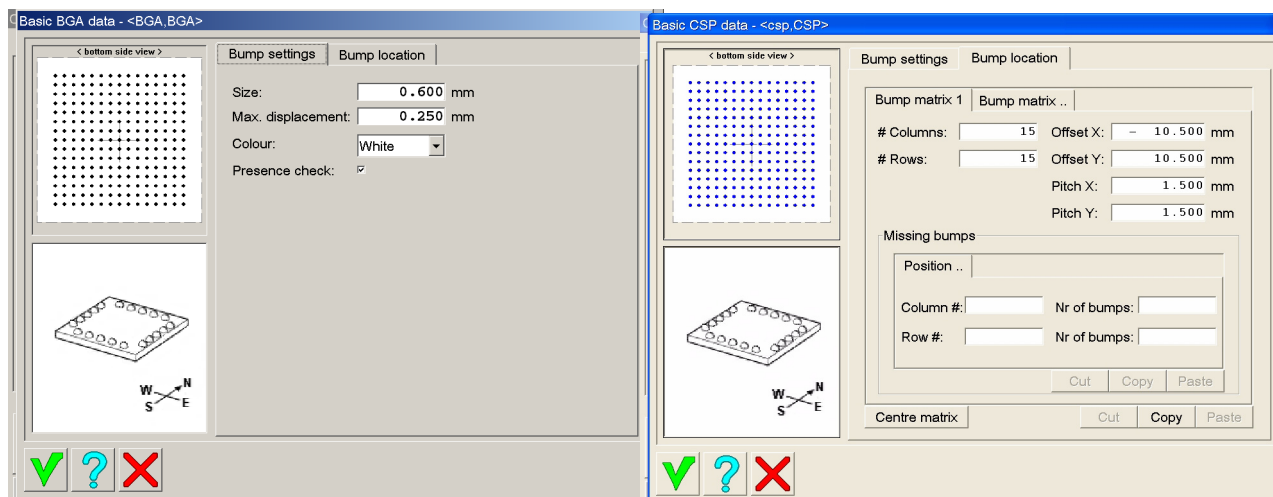

Figure 28 BGA, basic settings (example)
- Select 'Basic Settings' see Figure 28.